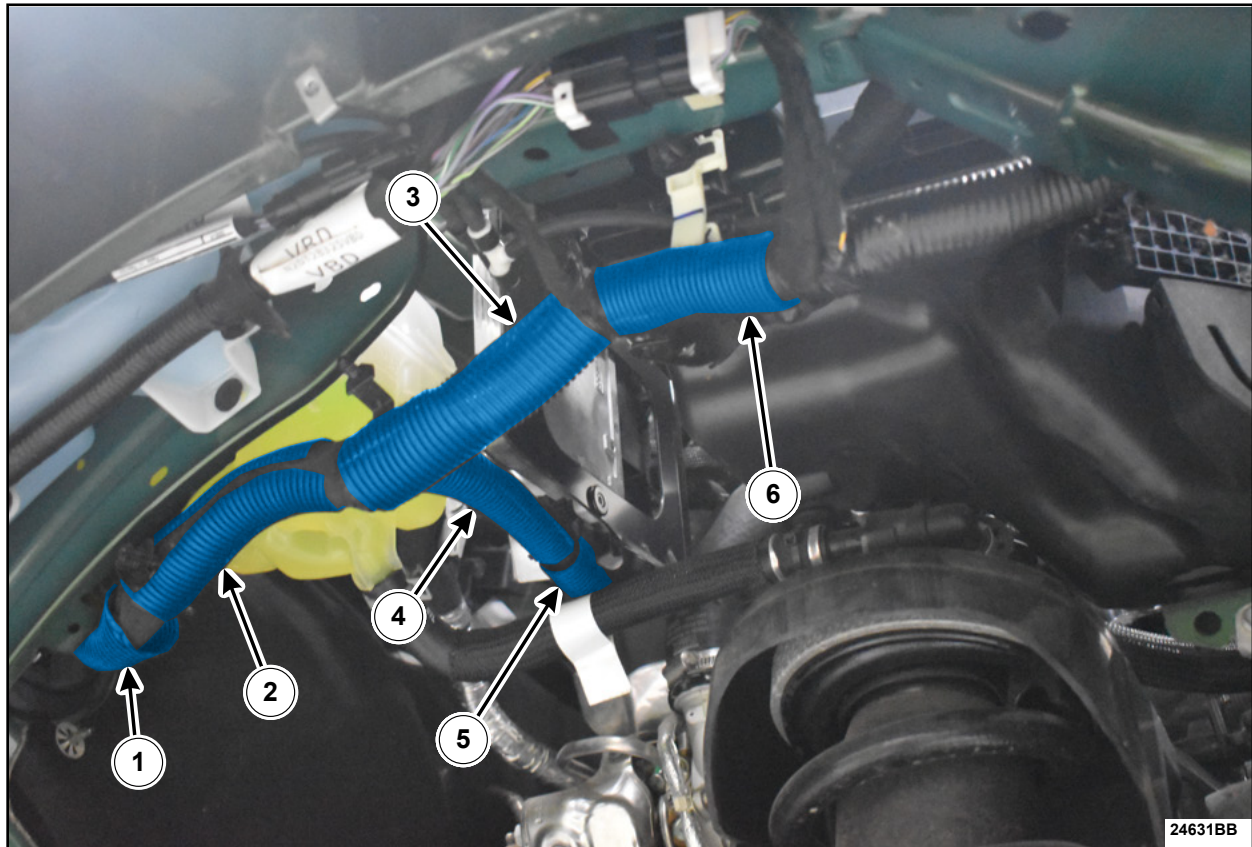

FIGURE 10
19. Install the convolute tubing onto the inspected portions of the wire harness and using the Coroplast® tape, tape the tubing onto the harness. See Figure 10.